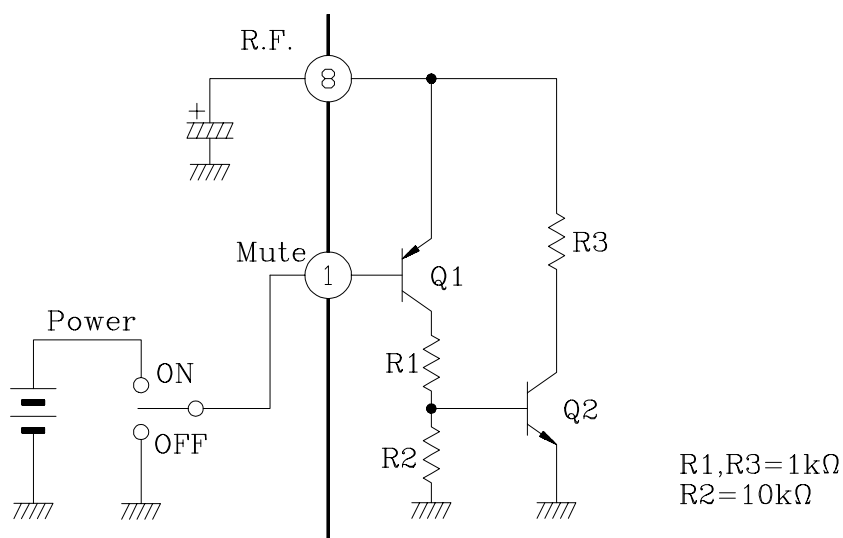

Fig.4 Mute Circuit
Through setting ① pin (mute terminal) at about 1V or less, muting becomes possible. The interval circuit of IC is shown in Fig. 4.